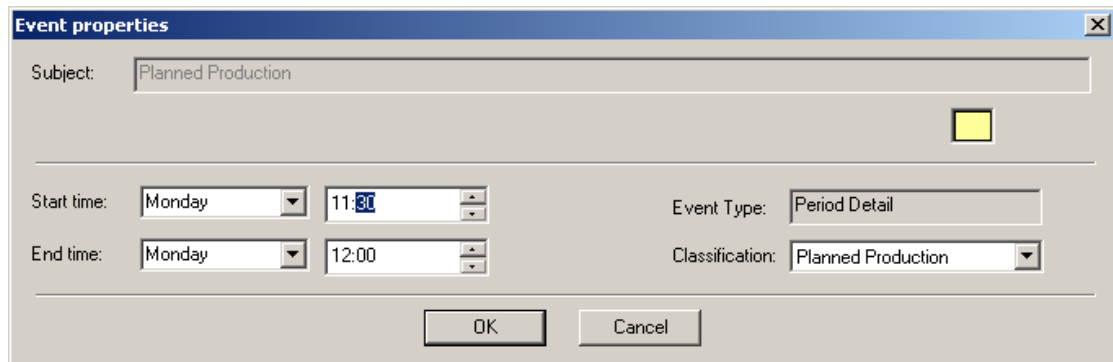

Figure L3.3 - Shift 1 Period 5 Period Details Time Change
11. Right-click on the fifth shift **period detail** for Monday, Shift 1, Period 5, and then select Properties to bring up the Event Properties dialog, shown in Figure L3.3. The Subject should display Planned Production; if it doesn't, try again.